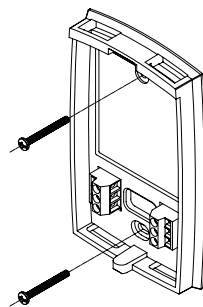

Figure 3
- ❻ Secure the wallplate to the wall with supplied mounting screws as per Figure 3.
- ❼ Connect the wires to the terminals.